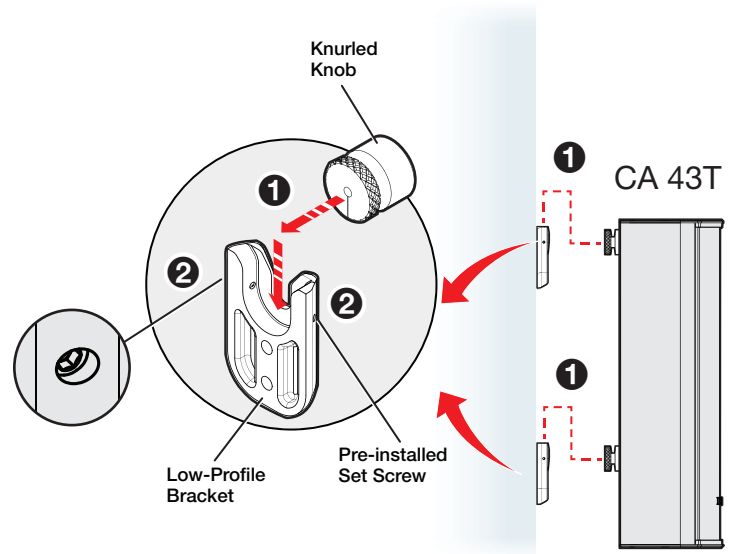

Figure 8. Securing the CA 43T Speaker Low Profile Mount
1. Slide the two Knurled Knobs into the two Low-Profile Brackets (see figure 8, ①).
2. Using a 5/64" or 2 mm hex wrench, secure the speaker in place by tightening one or both set screws (②) for each Low-Profile Bracket.